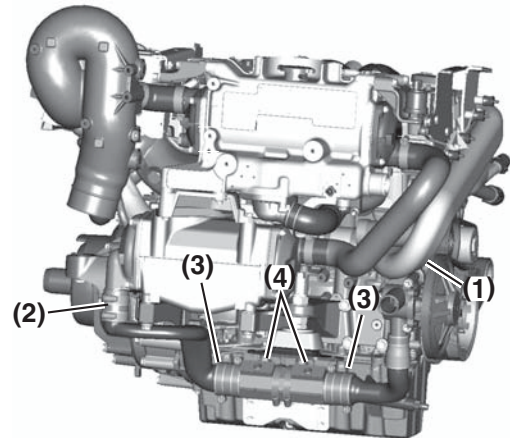

Figure 7-10
2. Loosen clamps and remove seawater pipe (**Figure 7-10, (1)**).
3. Loosen clamps and remove seawater pipe (**Figure 7-10, (2)**).
4. Remove hydraulic lines from ports (**Figure 7-10, (3)**). Allow fluid to drain into an appropriate container. Dispose of waste properly.
5. Loosen clamps (**Figure 7-10, (4)**) completely and remove hydraulic oil cooler.
7. Install cooler and tighten clamps (**Figure 7-10, (4)**).
9. Install seawater pipes (**Figure 7-10, (1 and 2)**). Tighten clamps securely.